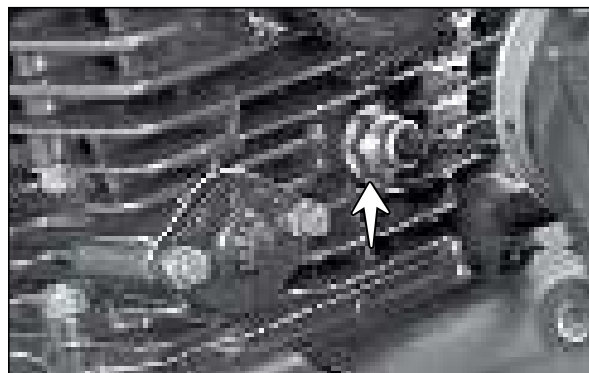

Fig. 5.59
- A thermal sensor fixed on the cylinder block to sense the engine temperature and give input to the TCI unit in the form of resistance. Check the resistance of the thermal sensor as explained in page no. 5-7. (Fig. 5.59)